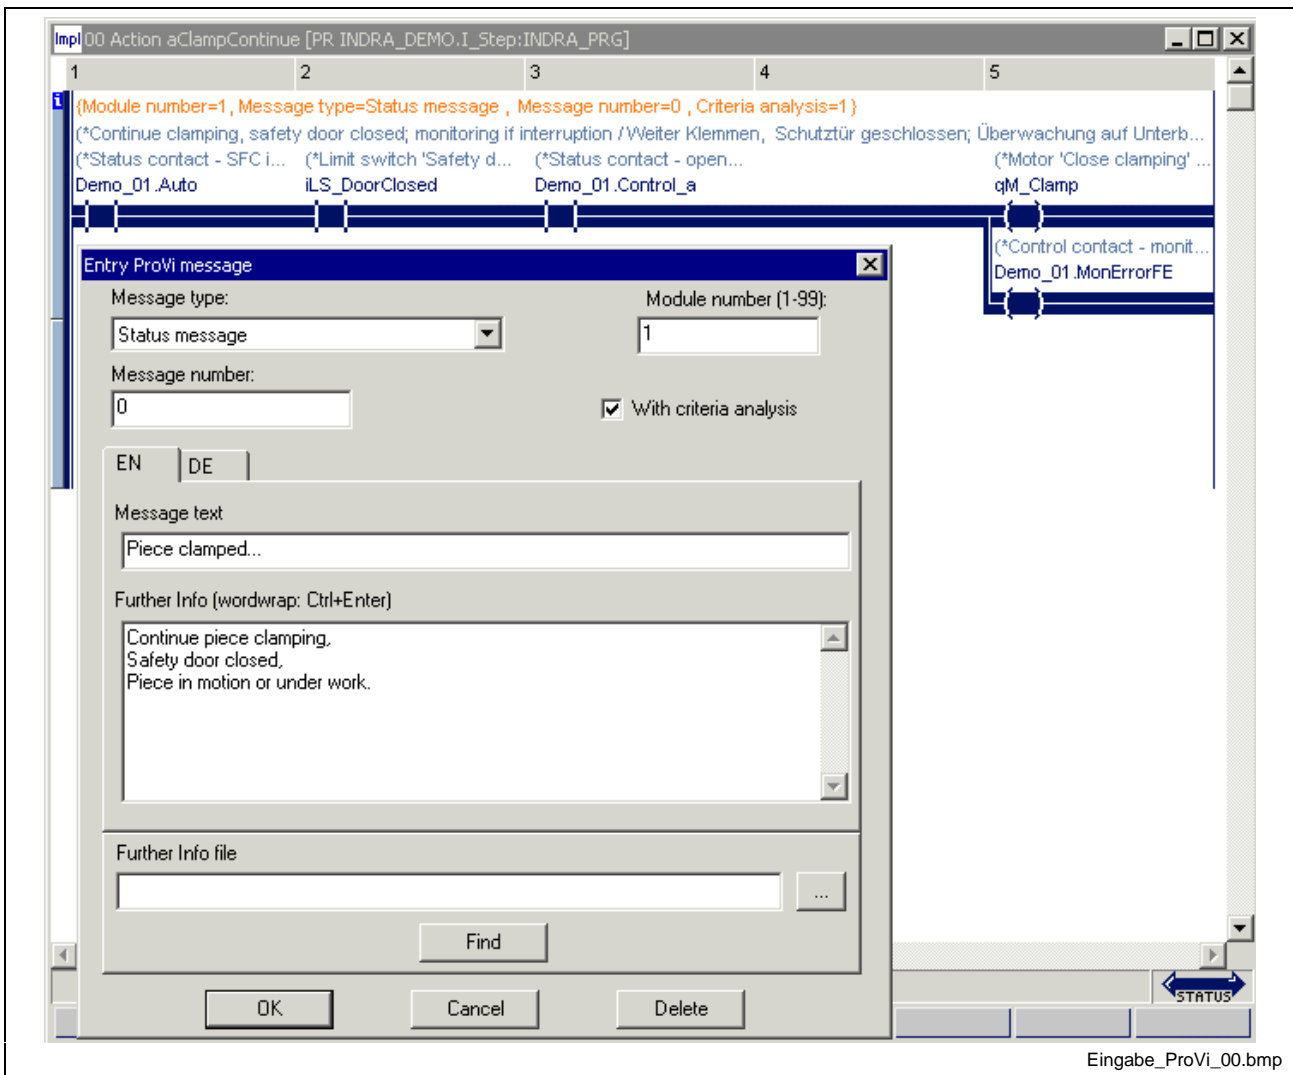

Fig. 4-118: Entering a ProVi message
This opens a window of the Message Integrator (MI), see Fig. 4-118.
-  HMI-Enter; indicates that the criteria analysis (diagnosis lens) has been selected in Fig. 4-118.